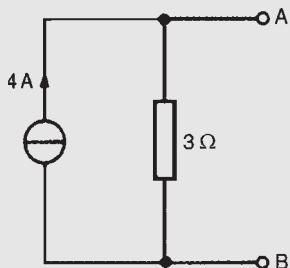

Figure 13.70
**Problem 19.** Convert the network shown in Fig. 13.70 to an equivalent Thévenin circuit.
The open-circuit voltage  $E$  across terminals AB in Fig. 13.70 is given by: